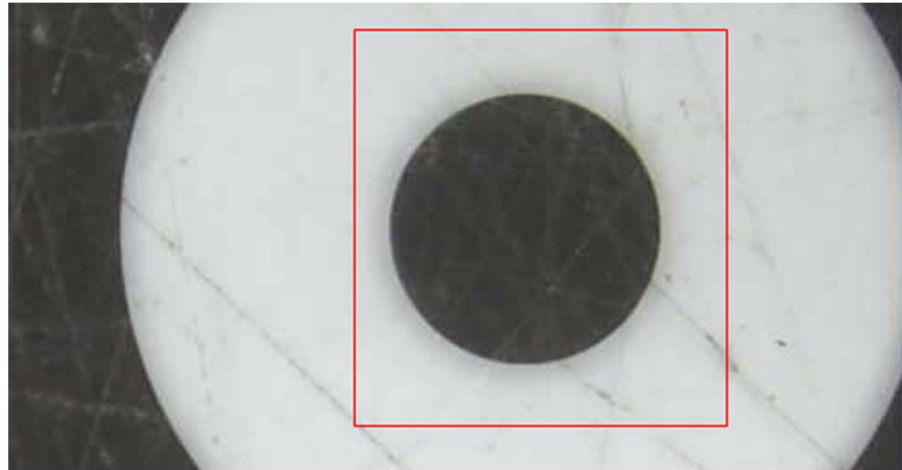

Fig. 5-16 Lock Circle
- (9) Auto Circle Detect : Automatically lock and measure Circle that can apply  tool. On the target Circle, draw an area to fully cover it, it will automatically measure the circle as Fig. 5-16, 5-17 shown.